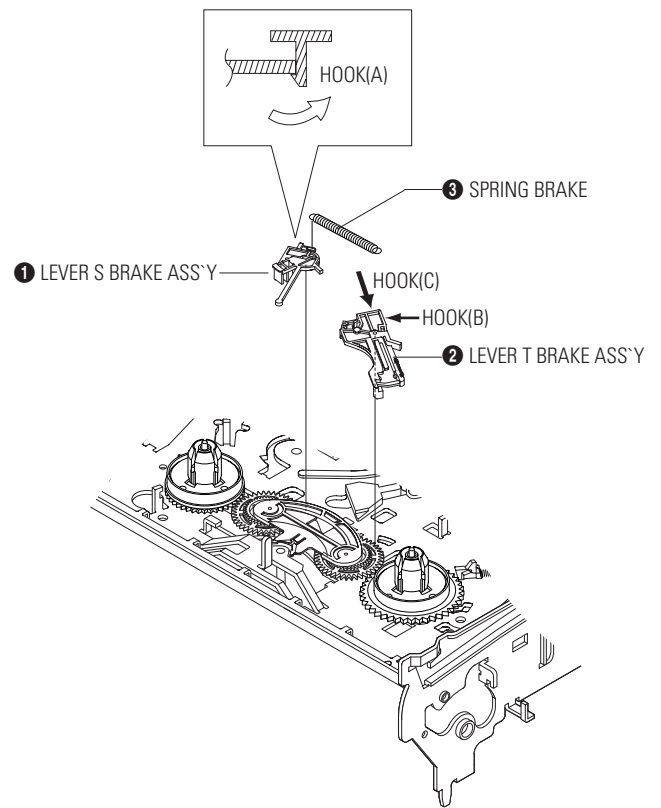

Fig. 3-24 Lever Brake S, T Ass'y Removal
- 1) Remove the Lever Brake S Ass'y (Refer to Fig 3-24).
- 2) Remove the Spring Tension Lever ❶.
- 4) Lift the Lever Tension Ass'y ❷ & Band brake Ass'y ❸.
- 1) Release the Hook [A] and the Hook [B], [C] in the direction of arrow as shown in Fig 3-24.
- 2) Lift the Lever S, T Brake Ass'y ❶, ❷ with spring brake ❸.